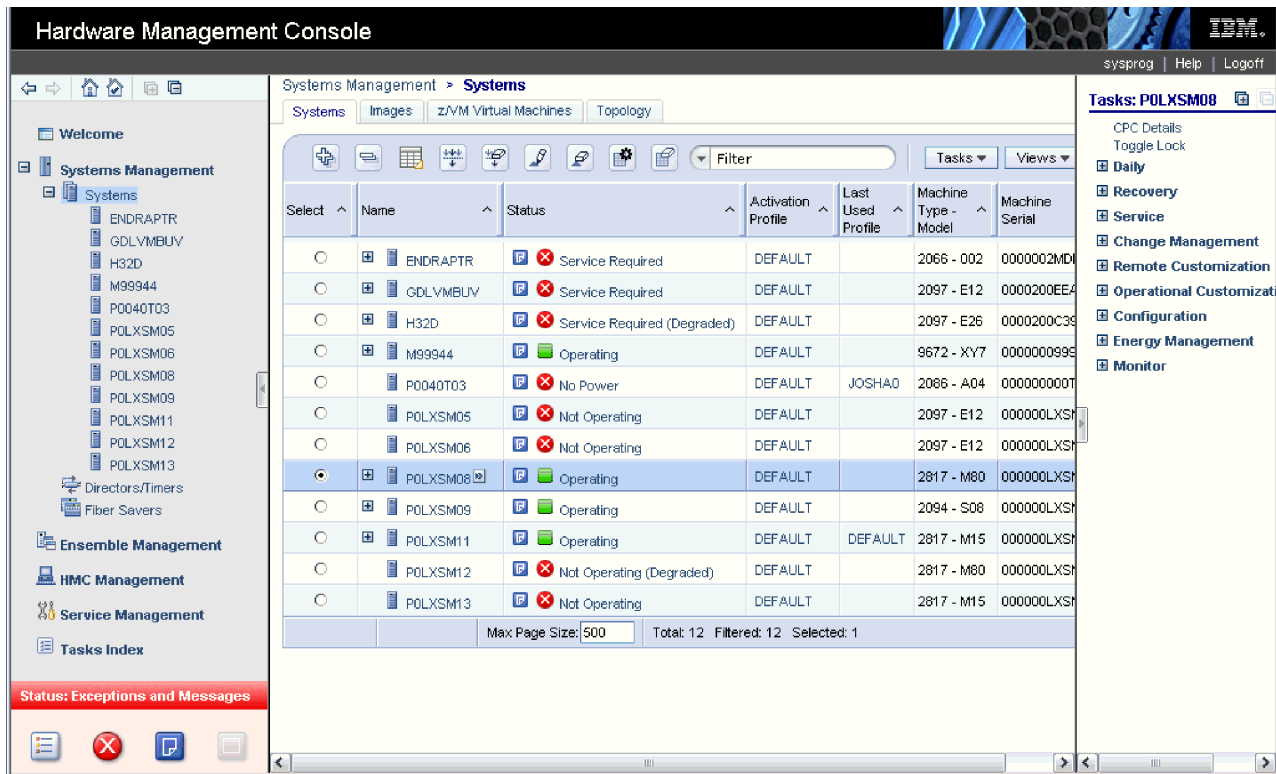

Figure 18. Vertical tasks pad
- **Position tasks pad vertically** - The tasks pad is rendered to the right of the work pane's table frame (see Figure 18 on page 23 for an example).
Figure 18 displays the objects you selected from either the navigation pane tree or the work pane table view. Multiple objects are selected in the work pane table, therefore, the intersection of the selected objects' tasks are displayed.